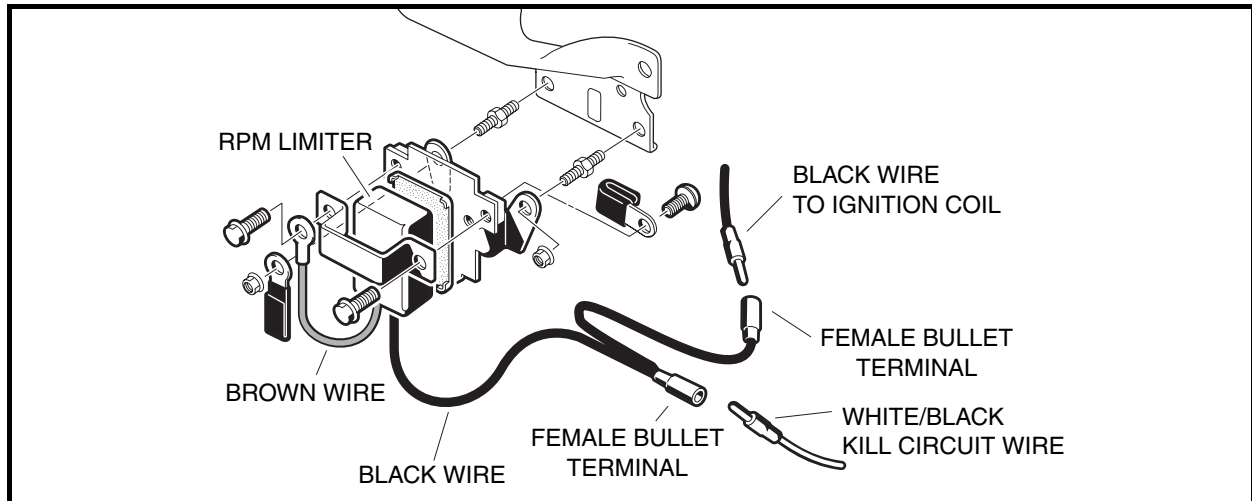

Figure 11-25 RPM Limiter
3. Disconnect both of the bullet terminals (Figure 11-25, Page 11-25).
- 3.1. Disconnect both of the bullet terminals at the RPM limiter (**Figure 11-25, Page 11-25**). Place the red (+) probe of the meter on the male bullet terminal of the wire connecting to the ignition coil under the fan housing, and place the black (-) probe on a clean unpainted surface of the engine or frame (**Figure 11-26, Page 11-25**).